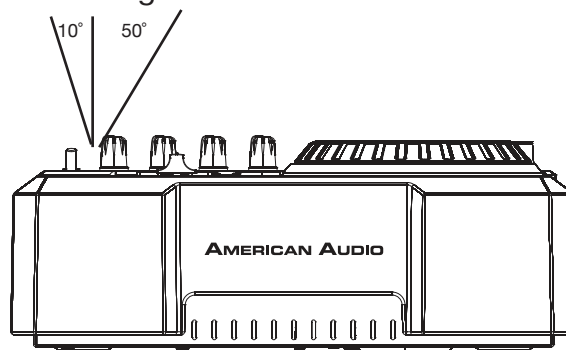

Figure 2
- The LCD is designed to be clearly visible within the angles shown in **Figure 2**. Mount the unit so that the visual angle is within this range.